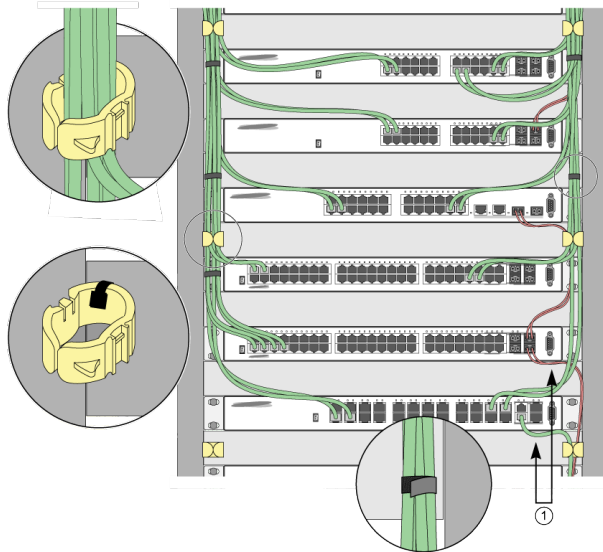

Figure 14: Properly Installed and Bundled Cable
- Provide enough slack, approximately 5 to 7.5 cm (2 to 3 in), to provide proper strain relief as shown in Figure 14 on page 53.
- When installing a patch panel using twisted pair wiring, untwist no more than 2.5 cm (1 in) of the cable to avoid radio frequency (RF) interference.